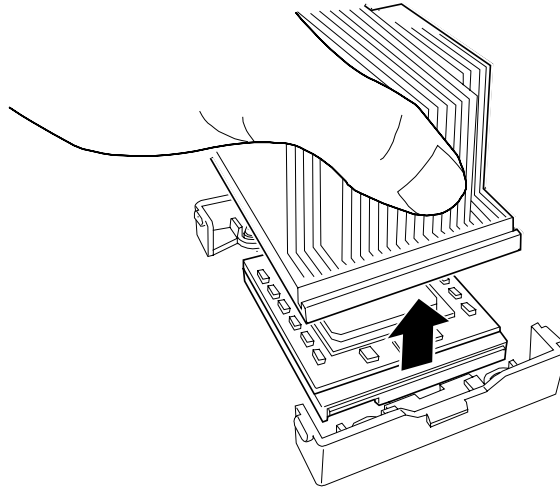

Figure 4-20. Removing the Heat Sink
- Rotate the heat sink lightly to the left and then to the right to free it from the CPU. Do not forcibly remove the CPU. Lift the heat sink straight out of the retention module. See Figure 4-20.